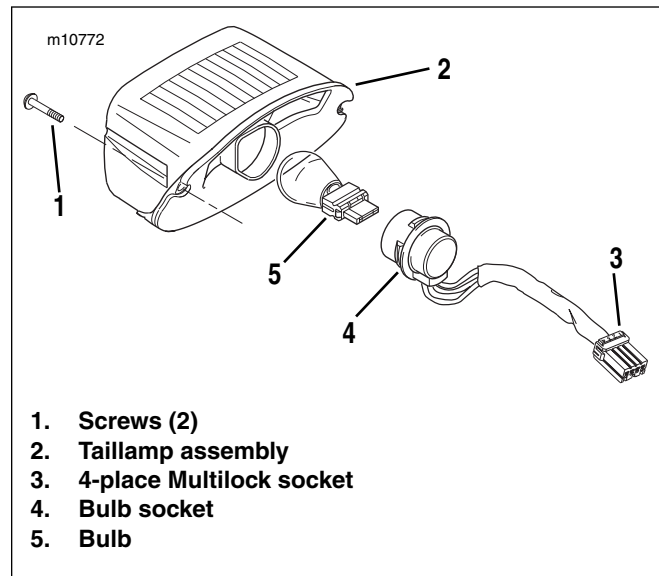

Figure 2. Taillamp Assembly
1. See Figure 2. Remove two screws (1) from lens to release tail lamp assembly (2) from chrome bracket at back of rear fender. Carefully pull tail lamp assembly from bracket.
2. Depress button at bottom of 4-place Multilock socket (3) to release tail lamp assembly from pin housing.
3. Rotate bulb socket (4) 1/4 turn counterclockwise and pull socket and bulb from tail lamp assembly (2).
5. Insert replacement bulb in bulb socket (4) and press bulb into socket so lock tabs on bulb engage locking slots in socket.